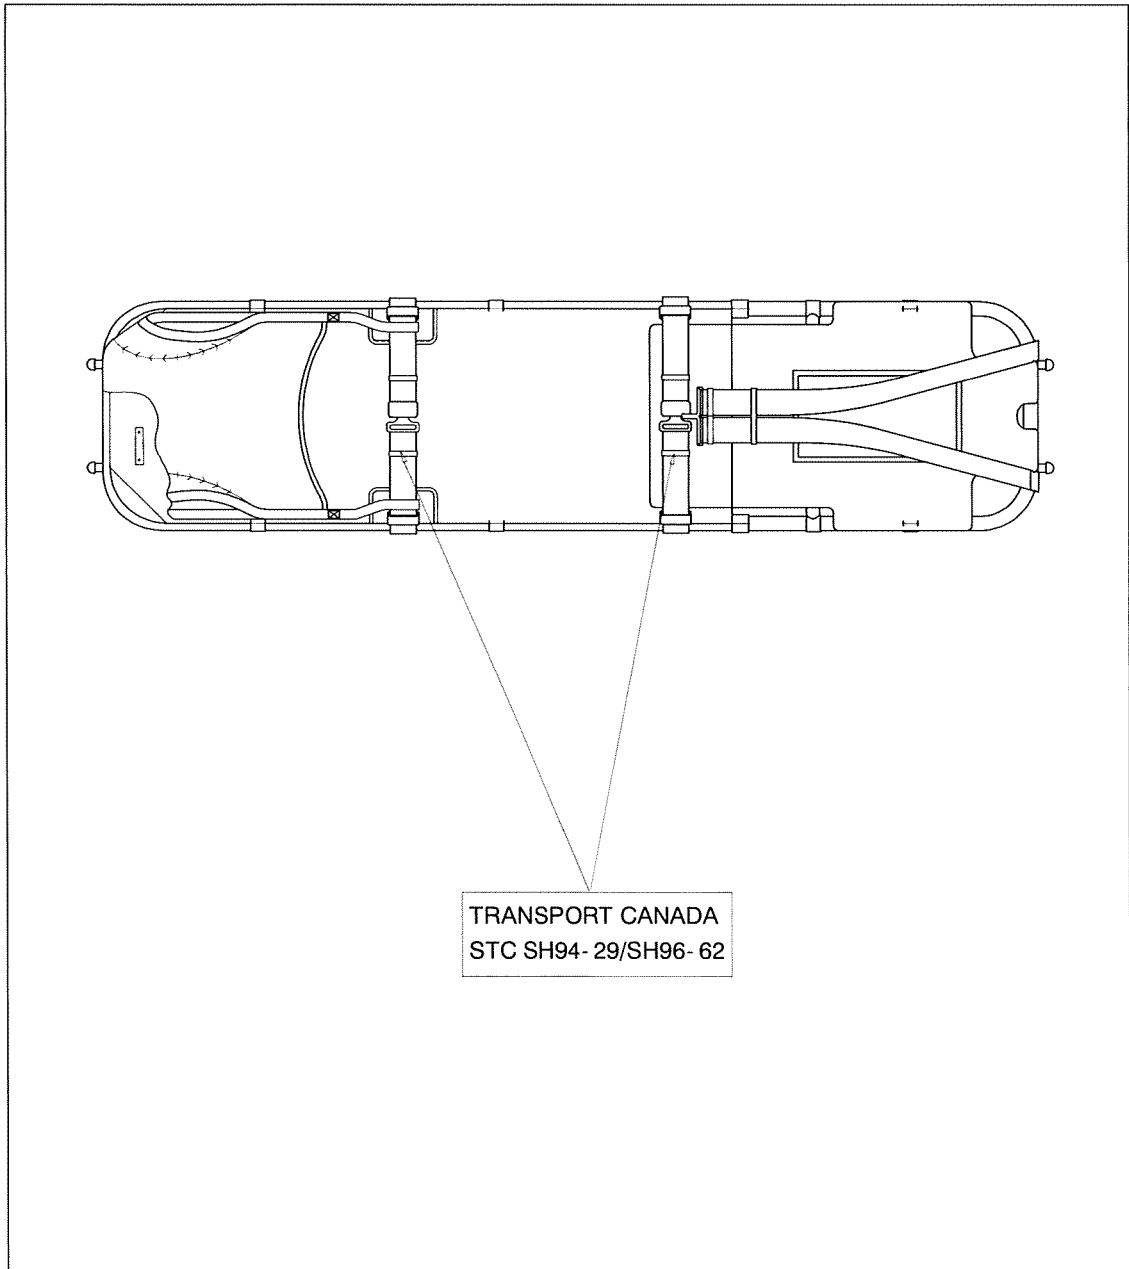

Figure 8 Identification tag located on each belt strap on Litter
2. Grasp the strap slider bar and turn it perpendicular to the webbing (Figure 8).
3. Pull the slider bar outward, away from the strap attachment point until the strap is the desired length (Figure 8).